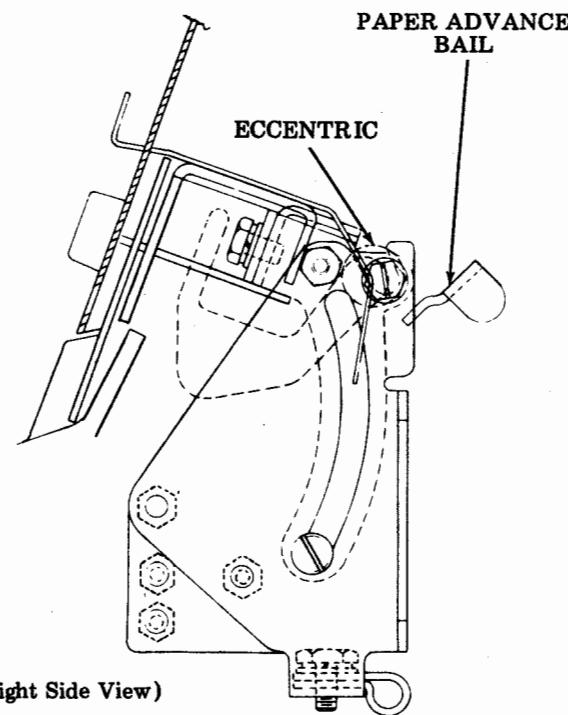

Figure 10 - Control Panel Button Adjustment
4.07 Paper Advance and Local Return: With the control panel in its normal position and the typing unit secure to the base, loosen the two eccentric screw locknuts friction tight. Rotate the eccentric until the gap between the paper advance bail and/or the local return bail is 0.060 inch minimum (Figure 10). Tighten both nuts. Move the print hammer carriage to the right and check the local carriage return operation. The paper advance operation must be checked under power.